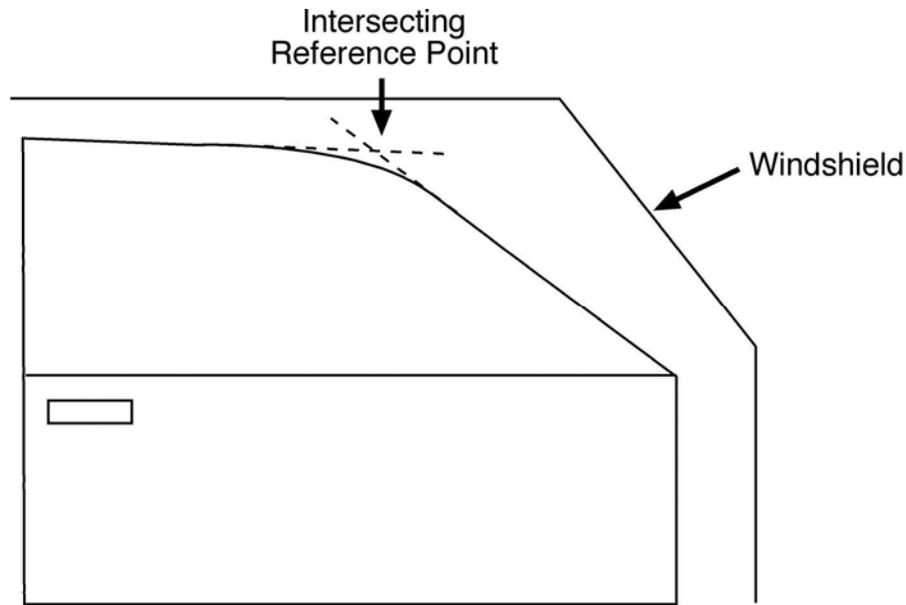

Figure 3-13c – Intersecting Reference Point for curved door openings.
- For those locations in front of the door (between the door and the windshield) and behind the door (between the door and the baffle board), the roof build-down may not extend more than 3 inches (7.62 cm) below the lowest part of the top of the door jamb. For doors with curved door openings, the reference point shall be defined as the intersection between two imaginary lines as shown in Figure 3-13c.